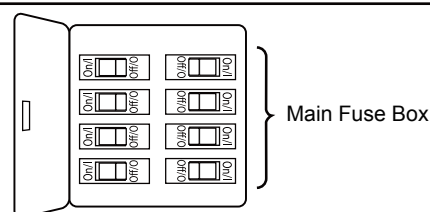
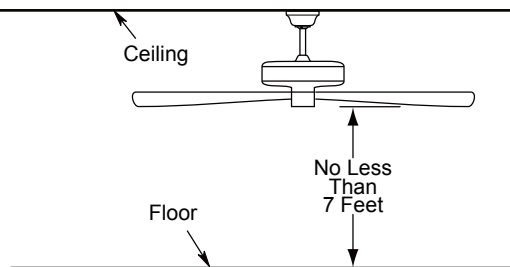
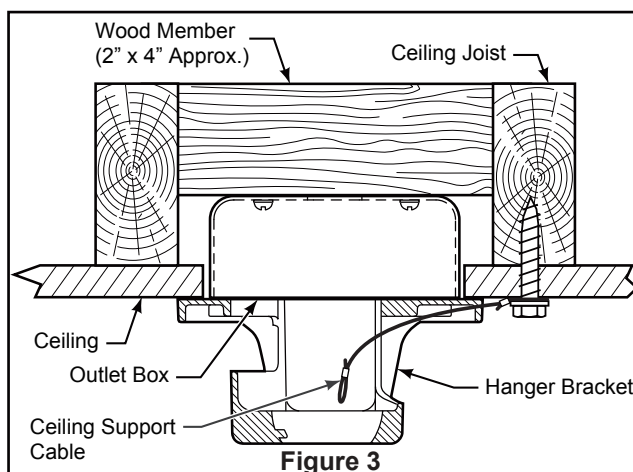

Figure 1
Figure 2
Figure 3
Your new ceiling fan will require a grounded electrical supply line of 120 volts AC, 60 HZ, 15 Amp Circuit. Electrical code requires use of a fan-rated outlet box to support the extra weight and motion associated with a ceiling fan. A fan-rated box will be labeled as such and typically supports up to a 70lb ceiling fan. Fan-Rated Outlet Boxes vary in ratings and design. Ensure the ratings of your ceiling fan outlet box meet the requirements for the ceiling fan being installed. Figure 1, Figure 2 and Figure 3 depicts different structural configurations that may be used for mounting the outlet box.
Low profile box (Figure 1)
Deep box (Figure 2)
Deep box with brace (Figure 3)
1. Remove the hanger ball portion from the downrod/hanger ball assembly by loosening the set screw in the hanger ball until the ball falls freely down the downrod. Remove the pin from the downrod, then remove the hanger ball. Retain the pin and hanger ball for reinstallation in Step 6. (Figure 1)
2. Remove the hairpin clip and clevis pin from the bottom of the downrod. Retain the pin and clip for reinstallation in Step 4. (Figure 2)
3. Loosen the two set screws in the downrod support of the motor assembly. Route the brown, blue, red, gray, yellow wires and safety cable through the downrod. (Figure 3)
To avoid possible fire or shock, be sure electricity is turned off at the main fuse box before hanging. (Figure 1)
The fan must be hung with at least 7' of clearance from floor to blades. (Figure 2)
- ☐ 1. Securely attach the hanger bracket to the outlet box using the outlet box screws and washers supplied with the fan. (Figure 3)
- ☐ 2. Drill a 1/4" pilot hole into the building structure to prevent splitting or cracking with installation of the lag bolt. Using the 3/8" x 2" lag bolt and flat washer, attach safety cable to ceiling joist or wood structural member. The lag bolt will pass through the flat washer, safety cable loop, and into the building structure. (Figure 3)
NOTE: Ceiling support cable cannot be secured to outlet box only, it must be directly secured to ceiling joist or structural member using the 3/8" x 2" lag bolt and flat washer. (Figure 3)
1. To set the code on receiver unit, slide dip switches to the same positions as set on the remote control. (Figure 1)
To avoid possible electrical shock, be sure electricity is turned off at the main fuse box before wiring. (Figure 2)
2. Slide the receiver into the hanger bracket before wiring as shown in figure 3.
- ☐ 1. Assemble canopy by rotating key slot in canopy over shoulder screw in hanger bracket, taking care not to pinch the wires. Tighten shoulder screw. Fully assemble and tighten second shoulder screw that was previously removed. (Figure 1)
- ☐ 2. Securely attach and tighten the canopy screw cover over the shoulder screws in the hanger bracket utilizing the key slot twist-lock feature. (Figure 2)
1. Lay flat side of blade holder on a flat surface with the inside of the blade holder facing up. This is the side with the threaded posts and pitched foot. Position the blade over the blade holder with the threaded posts showing. Make sure the bottom edge of the blade is fully seated against the blade holder. Place blade cover on top of the blade, positioning the holes over the threaded posts. With a Phillips screwdriver, thread three screws into the posts but do not fully tighten. Prior to final tightening, position the centerline of the blade holder with the center of the end of the blade. Tighten three screws to secure the blade. (Figure 1)
2. Secure the blade holders to the flywheel using the 1/4\"-20 screws, the post on the blade holder need to align the hole between the 1/4\"-20 threaded holes located on the bottom of the flywheel. (Figure 2)
1. Remove the six screws in the support bracket at the bottom of the motor assembly. Assemble the light plate assembly to the support bracket using the previously removed screws. (Figure 1)
2. Remove the three screws in the light plate assembly. Assemble the light kit assembly to the light plate assembly using the previously removed screws. (Figure 2)
- ☐ 1. **IMPORTANT:** Using a full range dimmer switch (not included) to control fan speed will damage the fan. To reduce the risk of fire or electrical shock, do not use a full range dimmer switch to control the fan speed. (Figure 1)
- ☐ 2. Restore electrical power to the outlet box by turning the electricity on at the main fuse box. (Figure 2)
- ☐ 3. Remove the battery cover from remote control by screwdriver and retain the screw for later. (Figure 3)